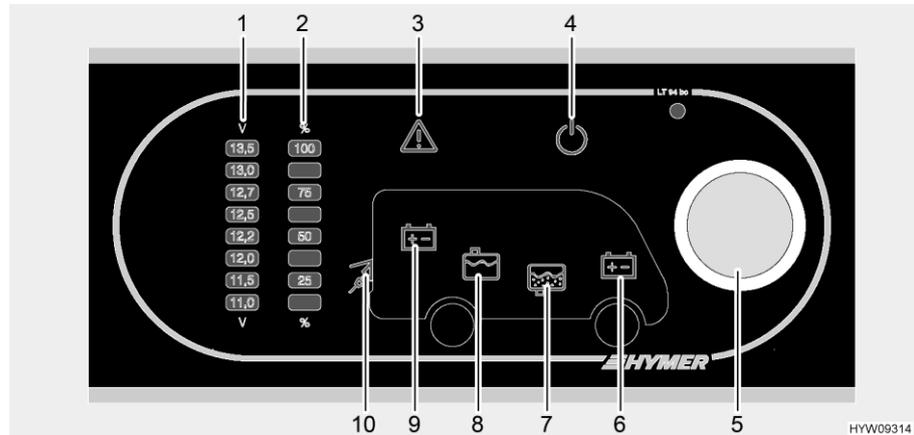

Fig. 132 Panel (LT 94)
The rotary knob (Fig. 132,5) switches the panel and the 12 V power supply to the living area on and off.
- Press the rotary knob (Fig. 132,5): The 12 V living area power supply is switched on. The 12 V indicator lamp (Fig. 132,4) lights up.
- Press the rotary knob (Fig. 132,5): The 12 V living area power supply is switched off. The 12 V indicator lamp (Fig. 132,4) goes off.
Use the rotary knob (Fig. 132,5) for reading the voltage of the living area battery as well as that of the starter battery. The voltage is displayed on the indicator scale for battery voltage (Fig. 132,1).
- Turn the rotary knob (Fig. 132,5) until the symbol for the desired battery lights up.
Living area battery voltage is displayed (Fig. 132,9)
Starter battery voltage is displayed (Fig. 132,6)
- Read the voltage from the indicator scale for battery voltage (Fig. 132,1).
Use the rotary knob (Fig. 132,5) for checking the fill level of the water tank or the waste water tank. The fill level is displayed on the indicator scale for the tank fill level (Fig. 132,2).
- Turn the rotary knob (Fig. 132,5) until the symbol for the desired tank lights up.
The level of the water tank is displayed (Fig. 132,8)
The level of the waste water tank is displayed (Fig. 132,7)
- Read the level from the indicator scale for the tank fill level (Fig. 132,2).
The Alarm warning light (Fig. 132,3) flashes if set limit values are exceeded or fallen below.
The Alarm warning light (Fig. 132,3) flashes if the battery voltage falls below 11 V. If the 12 V power supply is switched on, the relevant battery symbol (Fig. 132,6 or 9) also lights up and "11.0" starts flashing on the indicator scale for battery voltage (Fig. 132,1). Danger of total discharge.
The Alarm warning light (Fig. 132,3) starts to flash and the corresponding tank symbol (Fig. 132,7 or 8) lights up as soon as the water tank is empty or the waste water tank is full.
The 230 V indicator lamp (Fig. 132,10) illuminates whenever line voltage is available at the transformer/rectifier input.